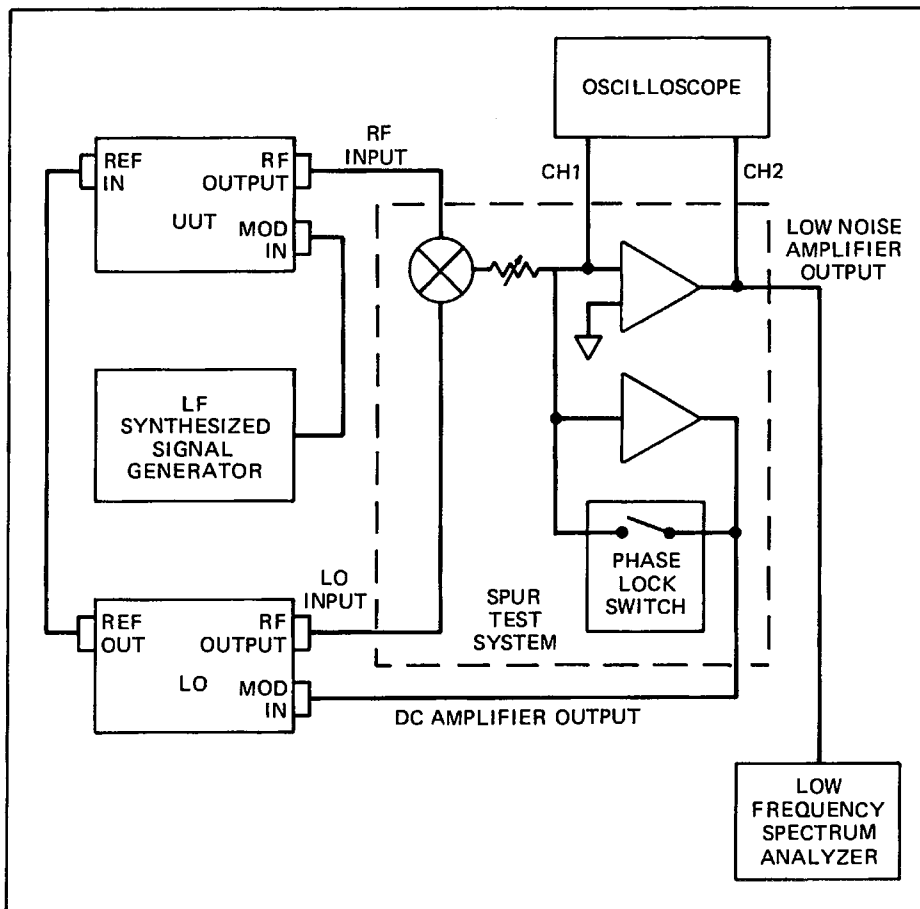

Figure 5-4. Mixer Carrier Null Spur Check
2. Connect the equipment as shown in Figure 5-4.